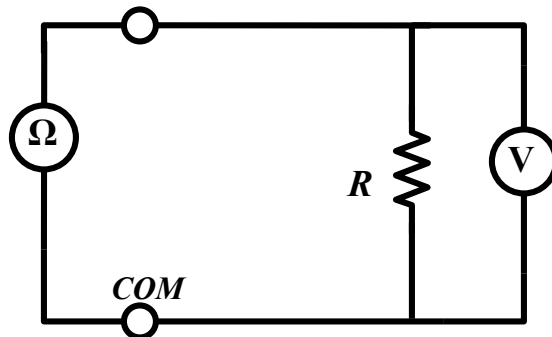

figure 3
2. Now add your handheld DMM to the circuit as shown in figure 3. Configure the handheld DMM as a voltmeter by selecting one of the DC Volt ranges with the rotary switch. Does the resistance measurement change when the voltmeter is added?